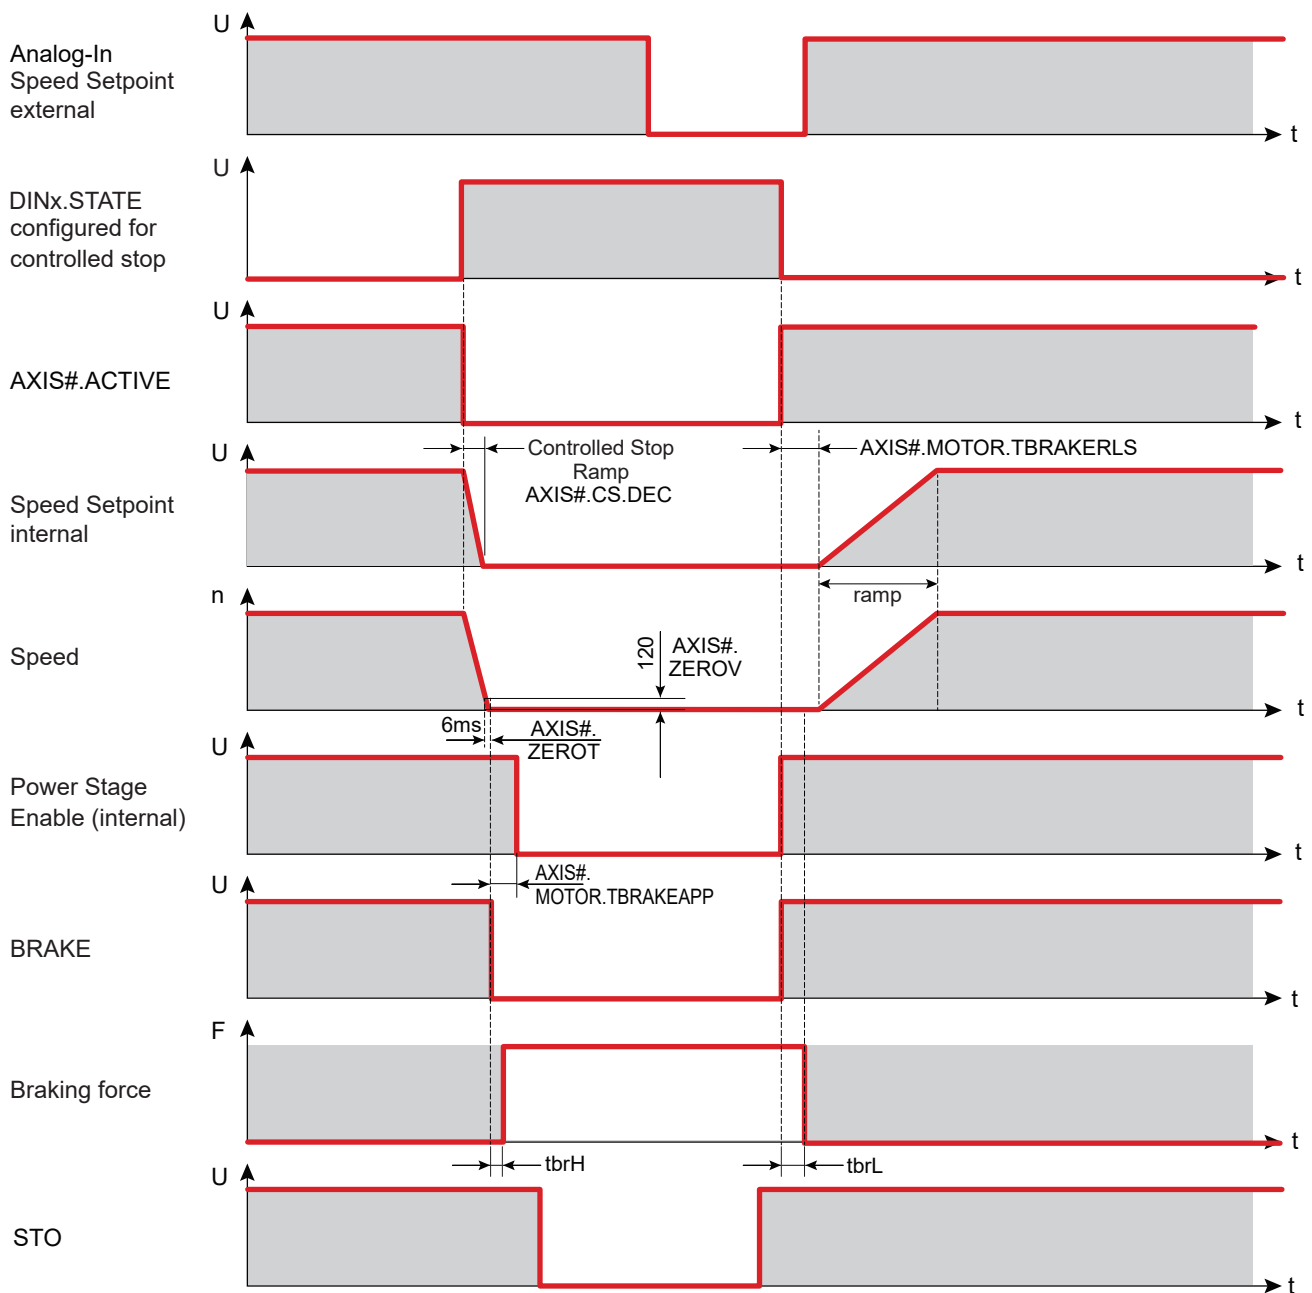

Figure 15-2: Holding Brake Functionality
15	• Response times measured on standalone brakes connected to a Kollmorgen AKD drive. (Figure 15-2) • B_{10d} and Number of Springs is specific to AKM servo motors with brakes labeled Made in Czech Republic. • Contact Kollmorgen for all other inquiries.
17	• Response times measured on standalone brakes connected to a Kollmorgen AKD drive. (Figure 15-2) • Response time of the brake measured with a diode and a transistor in power supply current.
- Figure 15-2 shows the timing and functional relationships between the controlled stop signal, speed, and braking force.